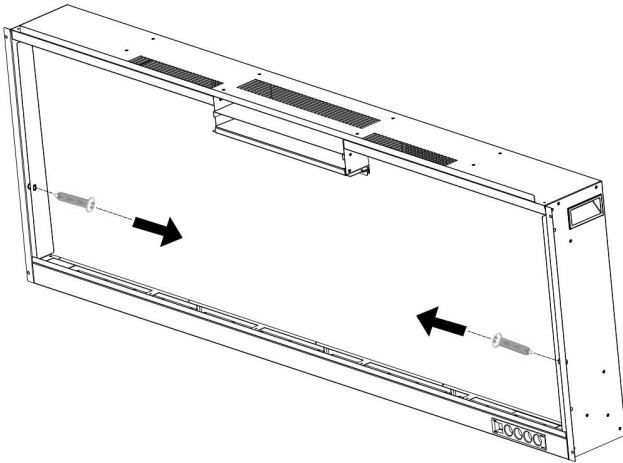

Fig. 2-1
- A. Take off the screws (1 per side) from the sides of the fireplace. Set the screws aside (Fig. 2-1)